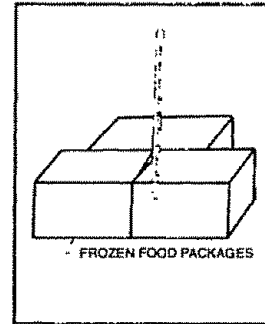

FIGURE 21
**FREEZER:** Place the thermometer in the center of the freezer, surrounded by frozen packages. Wait 5 to 8 hours, then check the reading. If temperature is not within 0° to +2° F, adjust control as needed, one position at a time and check temperature again after 4 to 6 hours. See Figure 21.